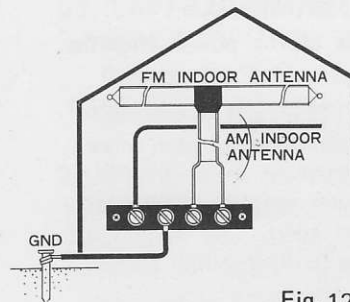

Fig. 12
- Use the accessory T-type indoor antenna when using Model SX-990 within a wooden building near the FM radio station. Connect the free end of the vertical section of the antenna to the FM antenna terminals (27) as shown in Fig. 12. Expand the horizontal section of the antenna, and determine its direction for good reception while actually receiving a broadcast program. Fix the horizontal section on a wall or other place in the determined direction. For the operating procedure, see "Reception of FM broadcast" on page 11.
- If good radio reception cannot be attained with the AM ferrite antenna (24), use the accessory AM lead wire antenna. Connect one end of the antenna to the AM antenna terminal (25), and expand the wire along a wall of the room. (See Fig. 12.)